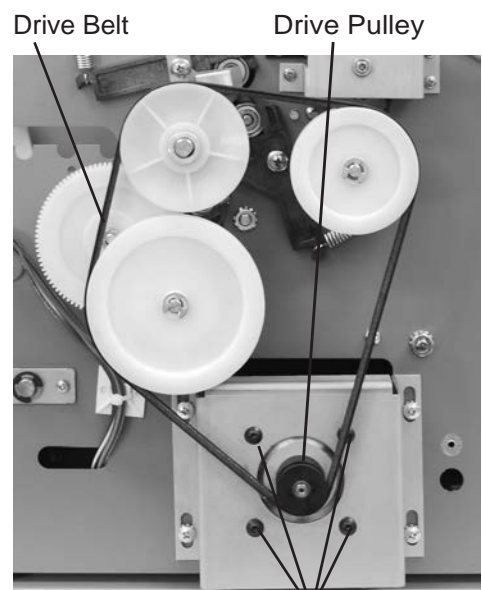

Fig. 18
9. Remove the drive belt from the drive pulley (Fig. 18).